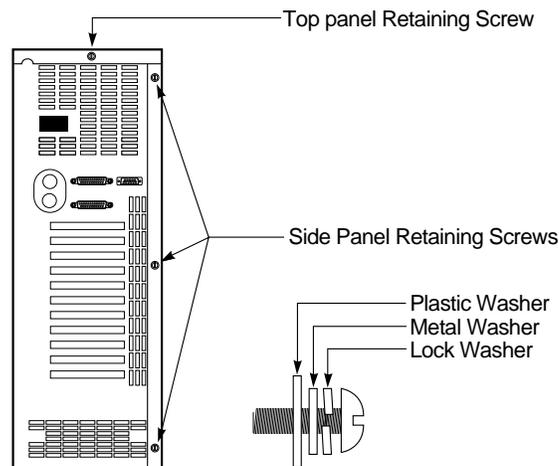

Figure A-16. Side and Top Panel Retaining Screw Locations
2. Remove the three side panel retaining screws as shown in Figure A-16.
If the washers come off of the retaining screws, they should be replaced as shown in Figure A-16 with the lock washer first, then the metal washer, and finally the plastic washer.